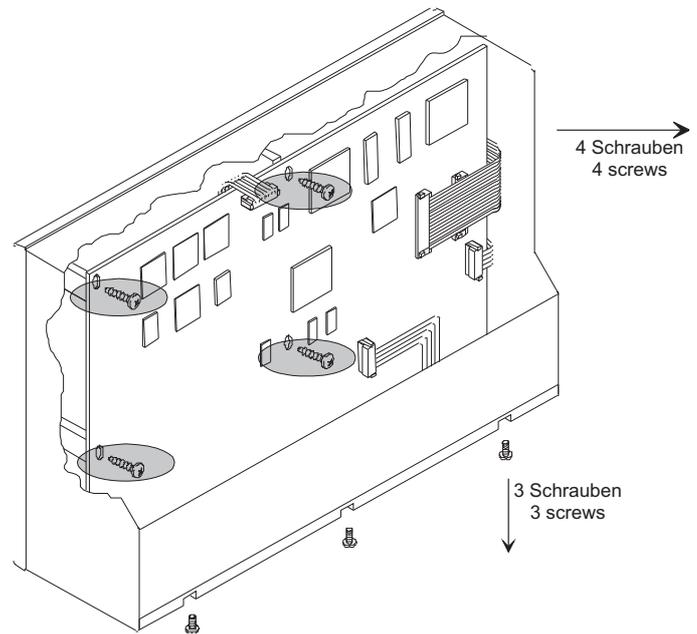

Fig. E 8-2: Loosen the mounting unit with main pcb and connector panel
5. Take out the four screws fixing the main pcb. Remove the screws at the bottom of the SurroundMonitor which hold the connector panel in place. Carefully remove the mounting unit of connector panel and main pcb (Fig. E 8-2). Assure not to damage any cable!